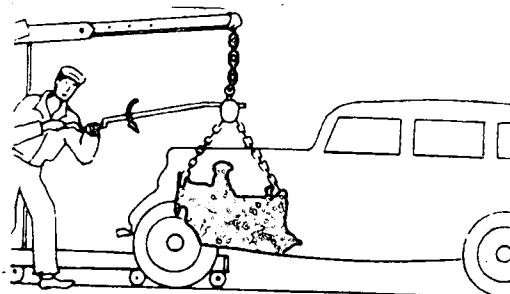

Fig. 1
- b) Install the tackle to lift the engine and secure the loop (Fig. 1).